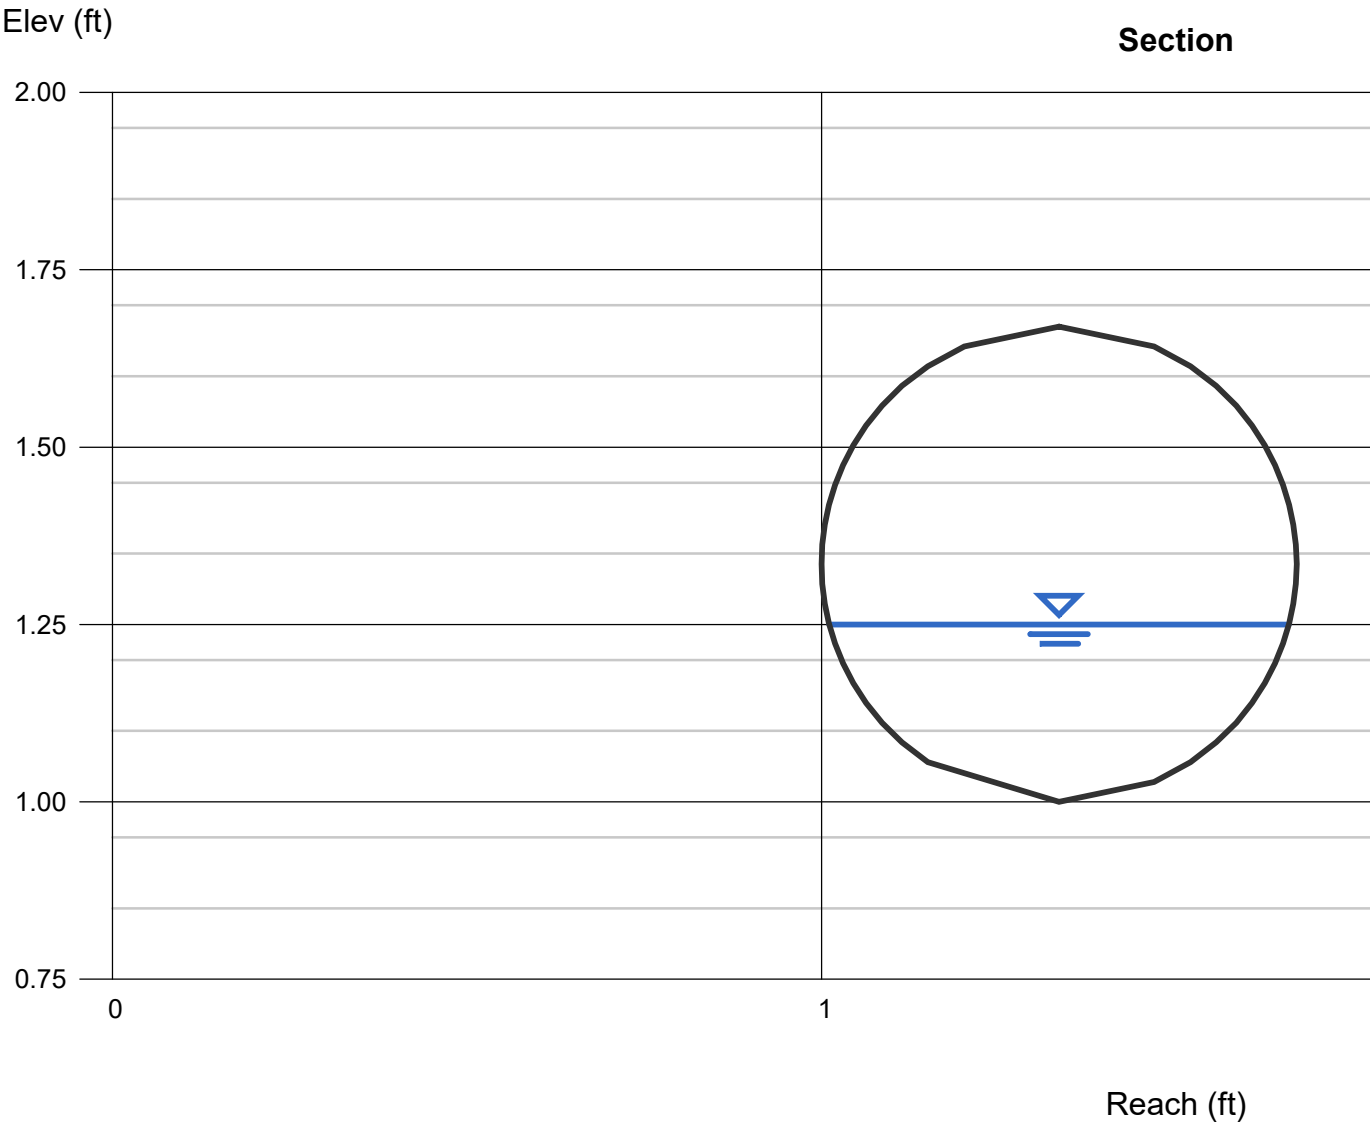

Figure: 30 TAC §285.91(3)
The existing site is a mobile home community with 15 mobile homes and 45 trailer homes. Per Figure: 30 TAC §285.91(3) from the Texas Secretary of State (Appendix A), each mobile home will have usage rate of 180 gallons/day.
The proposed site will be a 500 unit multifamily community. Per Figure: 30 TAC §285.91(3) from the Texas Secretary of State (Appendix A), each unit will have usage rate of 100 gallons/day per bedroom. 2 bedrooms/unit were assumed for this study.